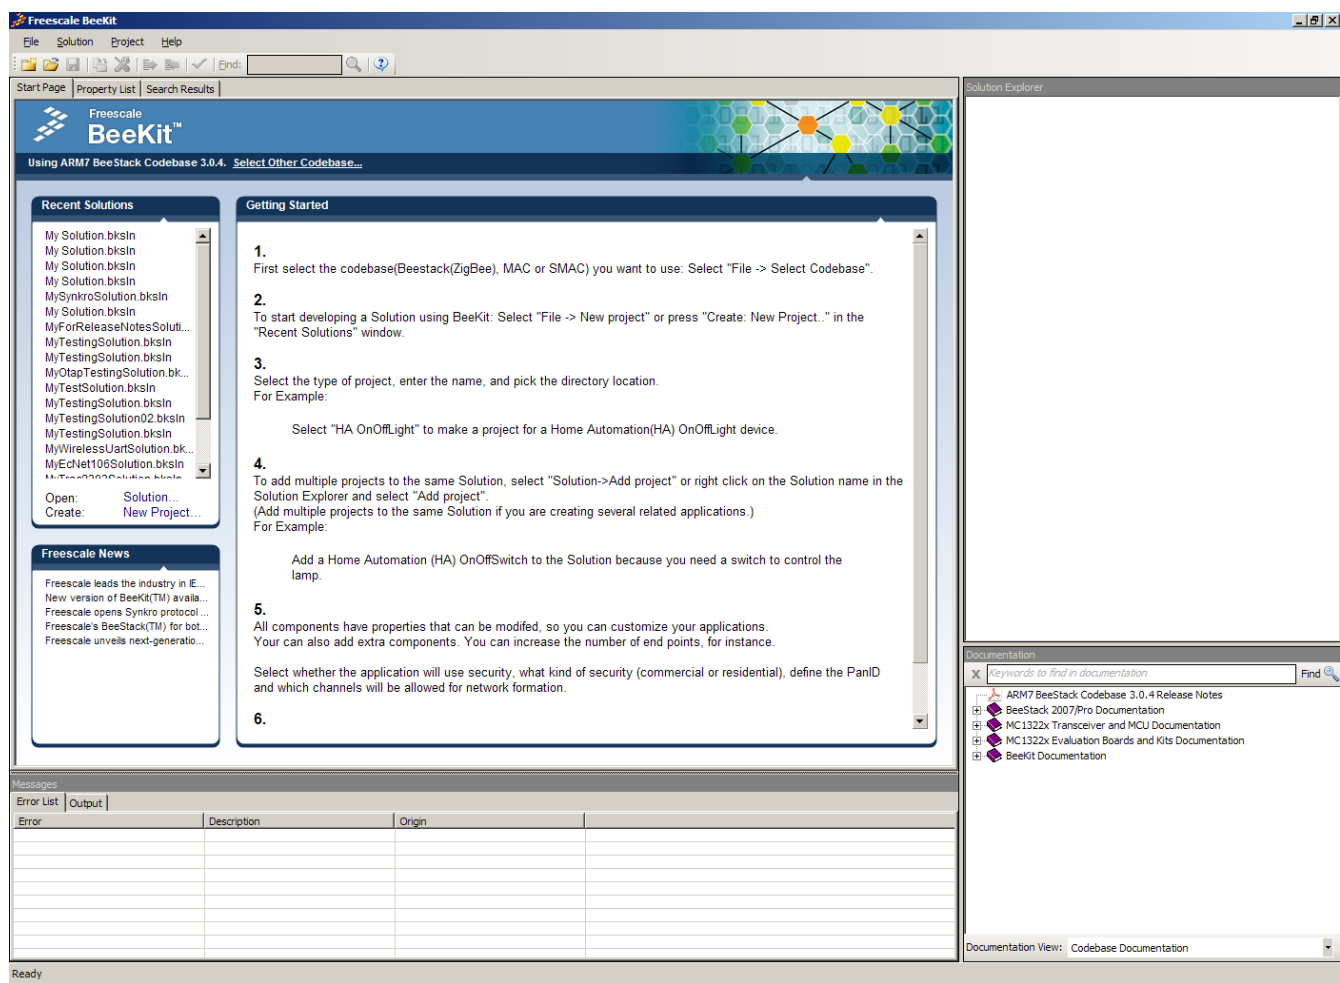

Figure 1-1. BeeKit Graphical User Interface
1. Install and then launch BeeKit and the BeeKit main window appears as shown in Figure 1-1.